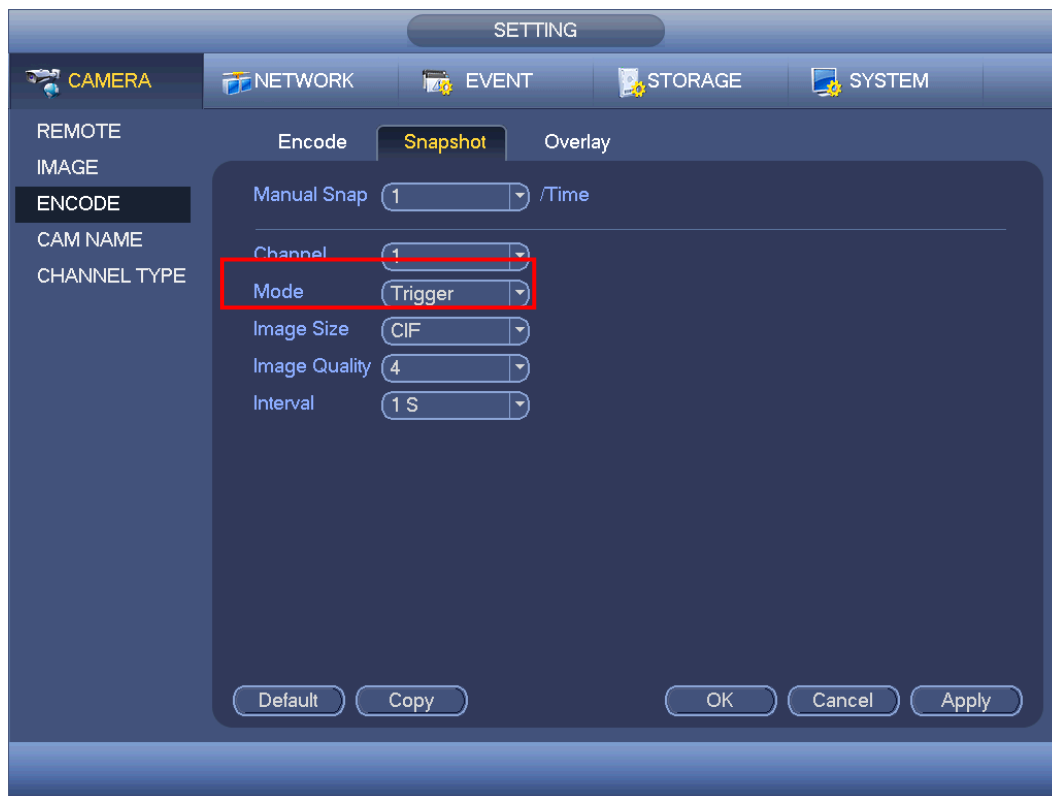

Figure 4-147
- In main menu, from Setting->Camera->Encode->Snapshot interface, here you can input snapshot mode as trigger, size, quality and frequency. See Figure 4-147.